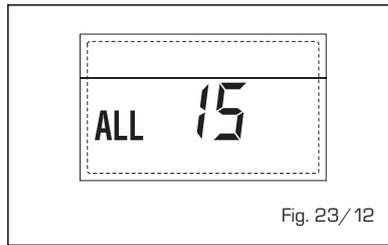

Fig. 23/12
**- ANOMALÍA SONDA EXTERNA "ANOMALÍA PARRAPEANT" (fig. 23/13)**